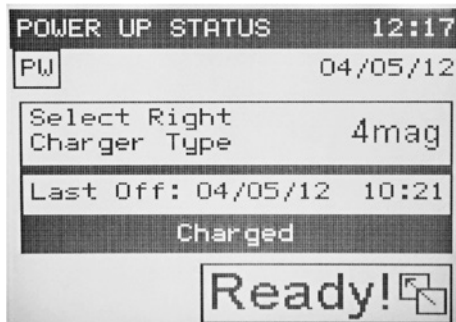
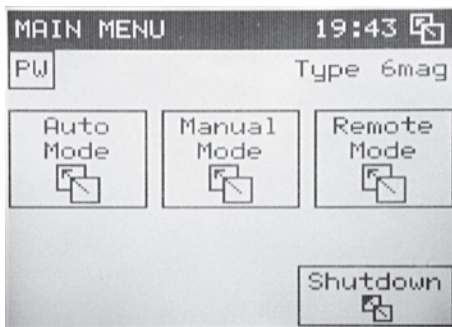

Figure 26 Power up ready status
Figure 27 Main Menu screen
Upon completion of the prescribed charging time (35 min) the charging status will indicate "Charged". If the system already meets the second condition – a charger is selected different from "NONE" – a blinking READY button will appear on the screen (see Fig. 26). By pressing the READY button the user arrives at the Main Menu screen with "COMMON" access level (see Fig. 27). At this point the unit is ready for mixing.
- Press the **Shutdown** button on the Main Menu screen (see Fig. 27).